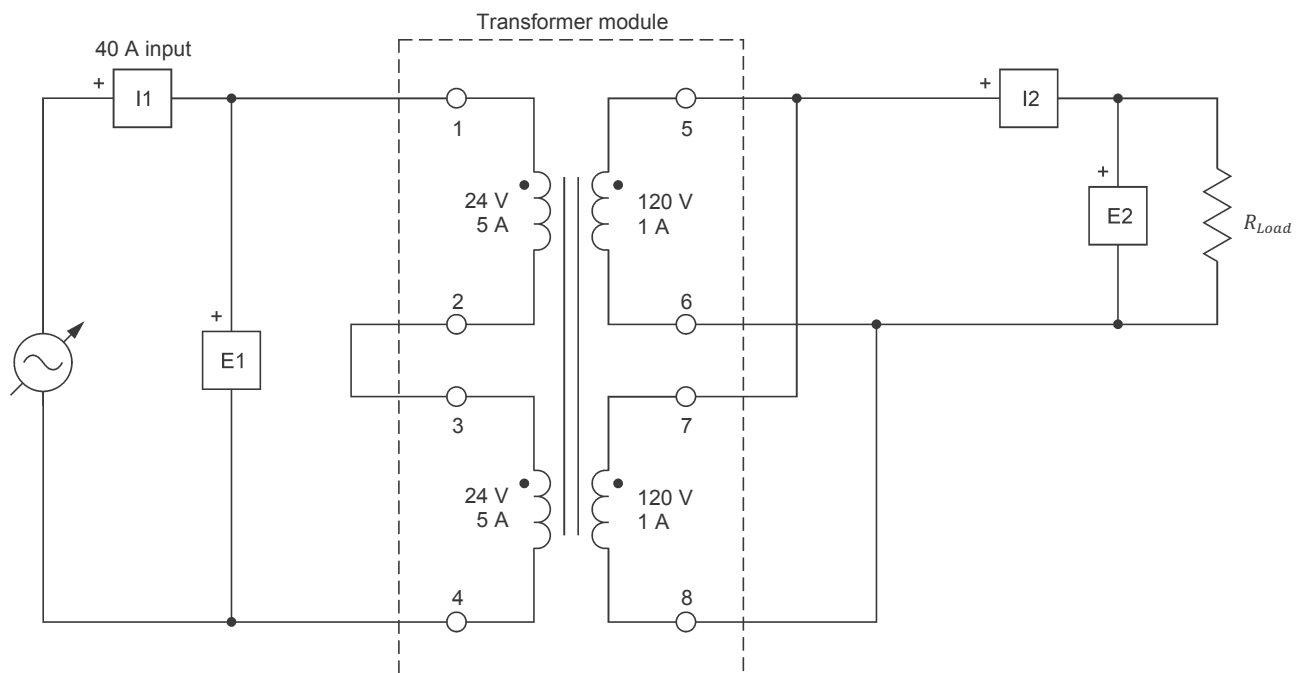

Figure 25. Transformer circuit used for studying transformer losses, efficiency, and voltage regulation.
6. Connect the equipment as shown in Figure 25.